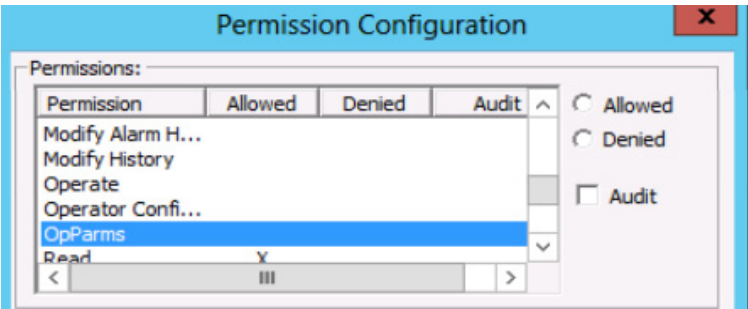

Figure 56. User Security Permission
- 5. When setting the OpParms Permission, select the **Allowed** check box as shown in Figure 56.